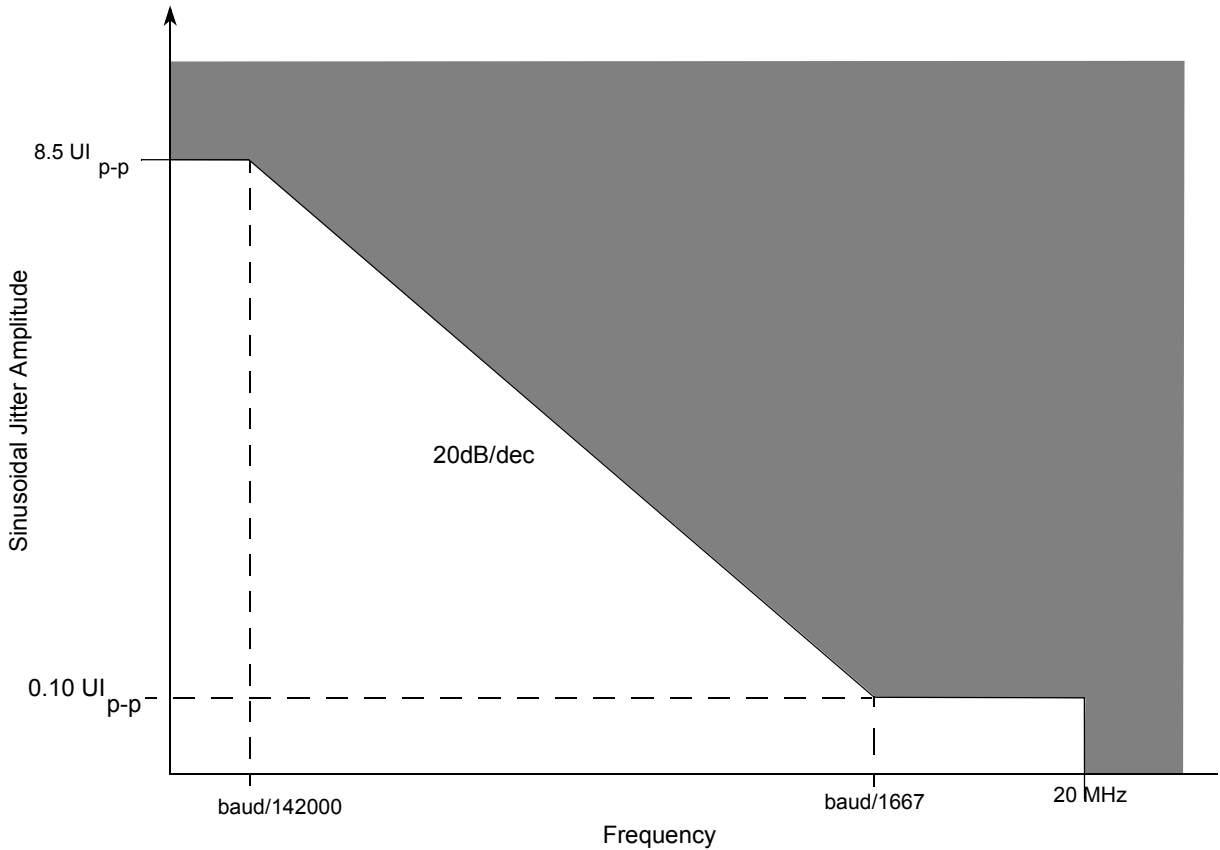

Figure 38. Single frequency sinusoidal jitter limits
2. The sinusoidal jitter in the total jitter tolerance may have any amplitude and frequency in the unshaded region of Figure 38